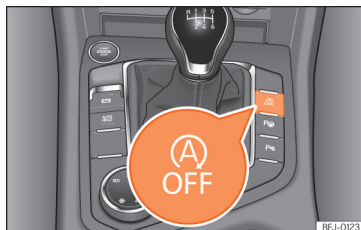

Fig. 250 Centre console: Start-Stop system button.
- To manually switch on/off the Start-Stop system, press the  button »» **Fig. 250**.